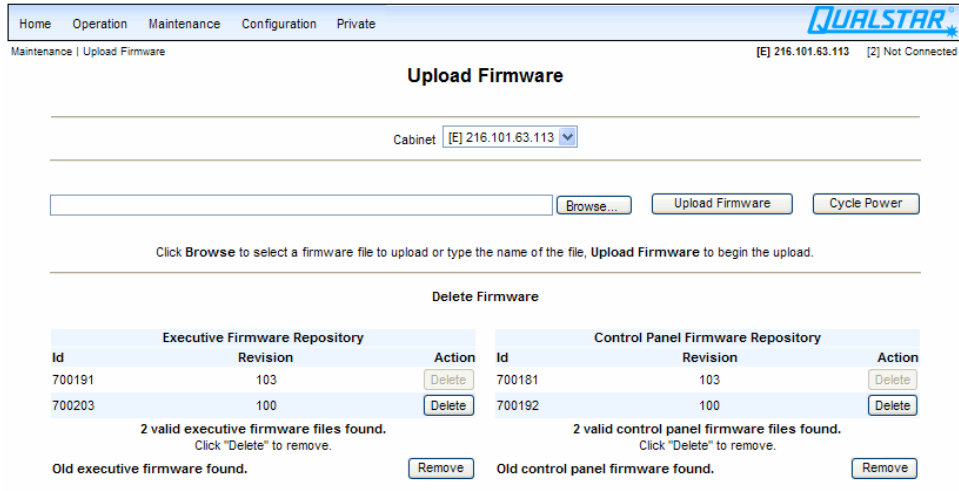

Figure 8-4 Sample of the Library Firmware File was written successfully Screen
- When the firmware uploading is complete a screen will appear that shows that the file was written successfully. See Figure 8-4.